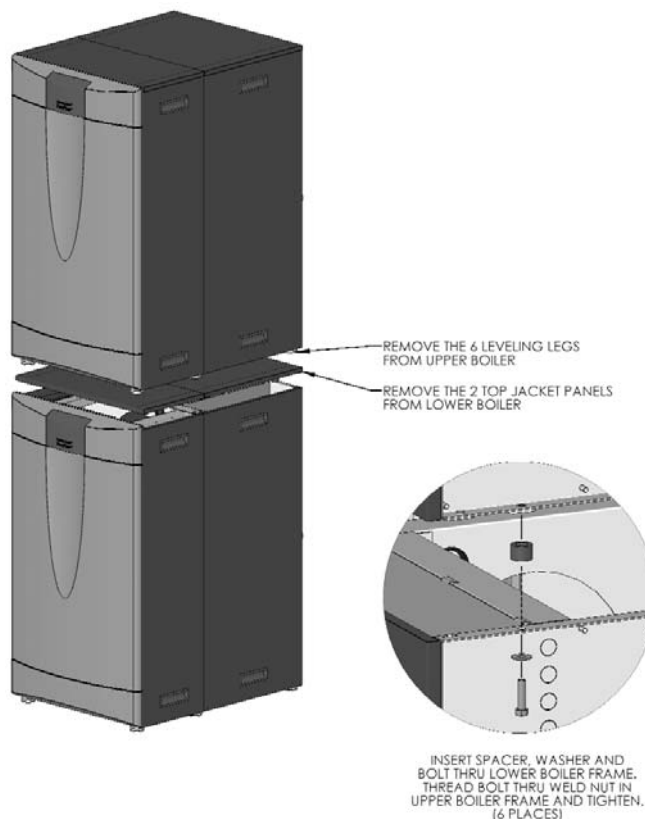

Figure 2.1: Stacking and Securing Boilers
Identical PF-850 and PF-1000 boilers can be stacked to save floor space on the installation. Figure 2.1 shows how the upper boiler is to be attached to the lower boiler.
4. Insert spacers, washers and bolts (provided) through the holes provided in the frame of the lower boiler and thread them into the threaded inserts on the base of the upper boiler. Figure 2.1 shows this assembly. Tighten the bolts securely.